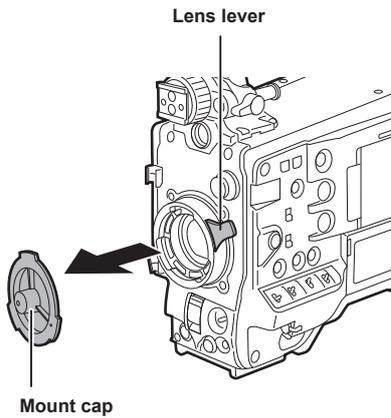

Fig. 1
- 1** Raise the lens lever and remove the mount cap. (Fig. 1)